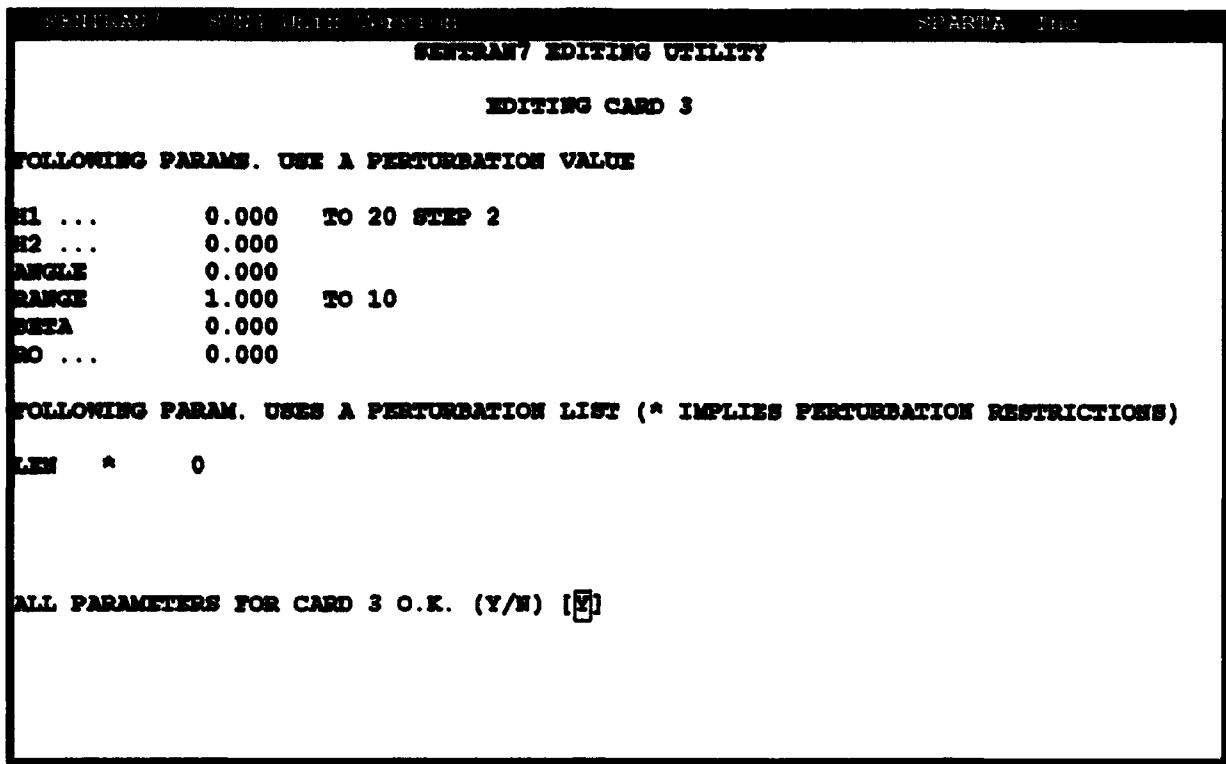

Figure 52. Example of the Screen for Card 3 After All Parameters Have Been Entered
- 12) Our work on Card 3 is complete and we can proceed to Card 4 by typing 'pd'. Compare your Card 3 image with Figure 52 before proceeding.